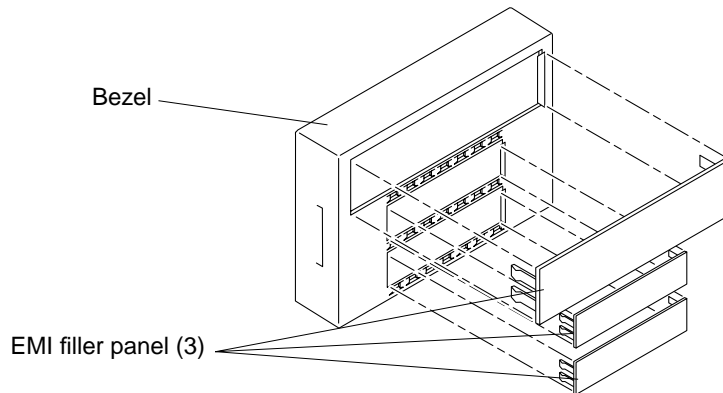

FIGURE 8-6 Removing and Replacing the Bezel EMI Filler Panel
2. Remove an EMI filler panel as follows (FIGURE 8-6):
3. **Position and snap the EMI filler panel into the bezel** (FIGURE 8-6).